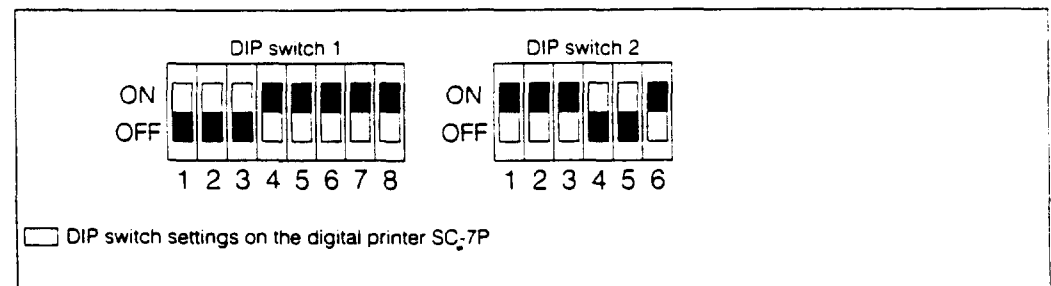

Fig. 4
- When using Screen sensor SS-1 (optional) or the Foot switch (optional), connect them to the projector. When using digital printer SC-7P, set the DIP switch on the SC-7P as shown in Fig. 4.